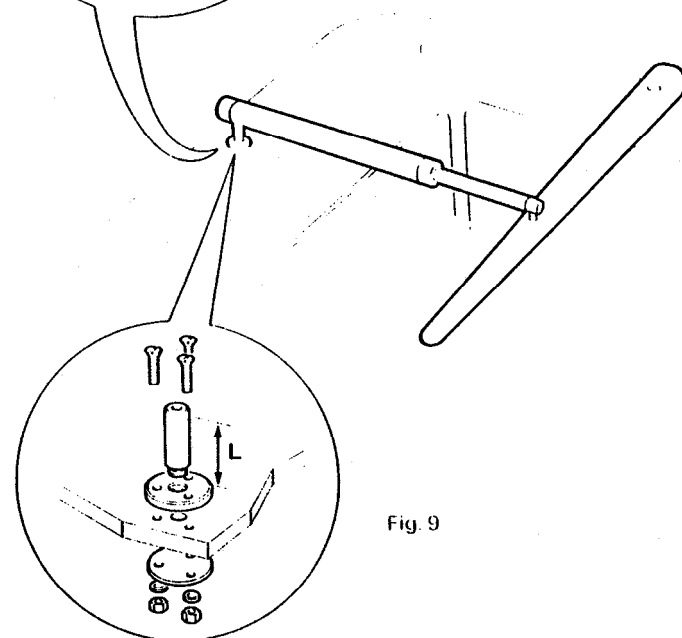

Fig. 9
- Mount the flange using 3 x 6mm (1/4") diameter bolts, nuts and washers, being sure the back plate is installed correctly. Bed the flange on a thin coat of silicone rubber sealant (Fig.9).